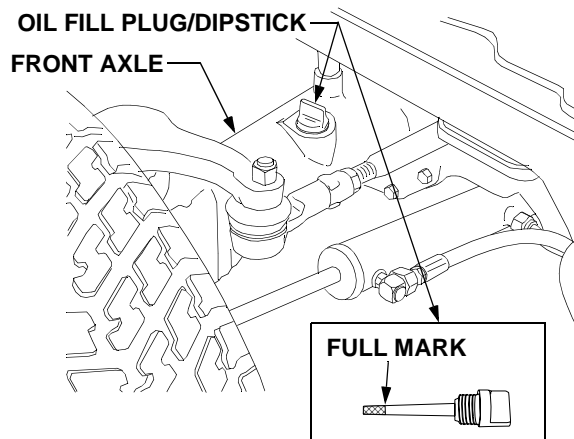
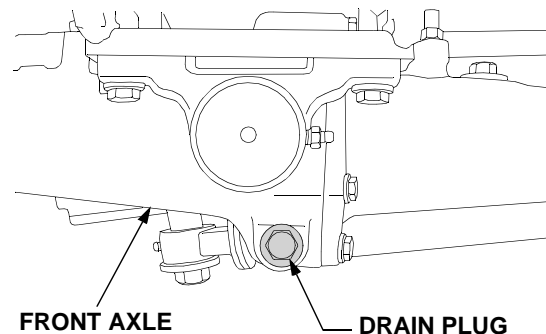

Figure 48
Figure 50
The oil fill plug/dipstick is located on the *left* side of the axle housing. See Figure 48.
- Clean the area around the oil fill plug/dipstick to prevent debris from entering the axle housing. See Figure 48.
- Withdraw the dipstick and wipe it clean, then reinsert and screw in all the way. Unscrew and withdraw again to read the oil level. Always keep the oil level between the bottom and the full mark of the dipstick (See Figure 48).
- To prevent debris from entering the front axle housing, clean the area around the oil fill plug/dipstick and the axle drain plug located at the center front of the axle. Refer to Figure 48 and Figure 50.
- Remove the oil fill plug/dipstick to help vent the axle, then remove the drain plug and allow the oil to drain into the container. Reinstall the drain plug after draining the oil. See Figure 50.